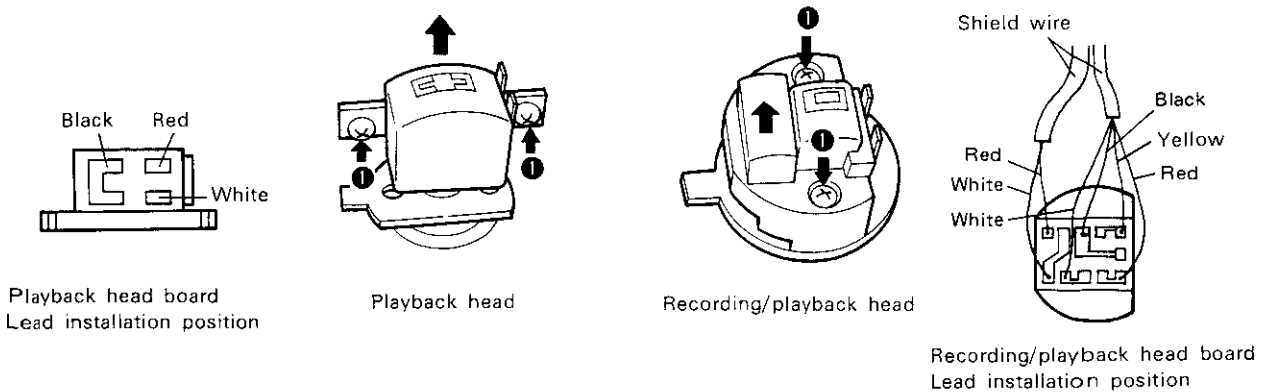

Fig. 13-7 Removal of head assembly
2. Remove 2 screws ❶ for head installation and pull out the head assembly. (See Fig 13-7)
4. Solder the new lead wires to the new head. (See Fig 13-7)